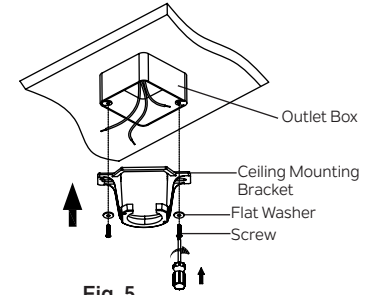

Fig. 5
**Step 1.** Before attaching fan to outlet box (not included), ensure the outlet box is securely fastened to at least two points to a structural ceiling member (a loose box will cause the fan to wobble). Pass the 120 volt supply wires from the ceiling outlet box through the center of the ceiling mounting bracket. Install mounting bracket to outlet box in ceiling using the screws and washers included with the outlet box. (Fig. 5)